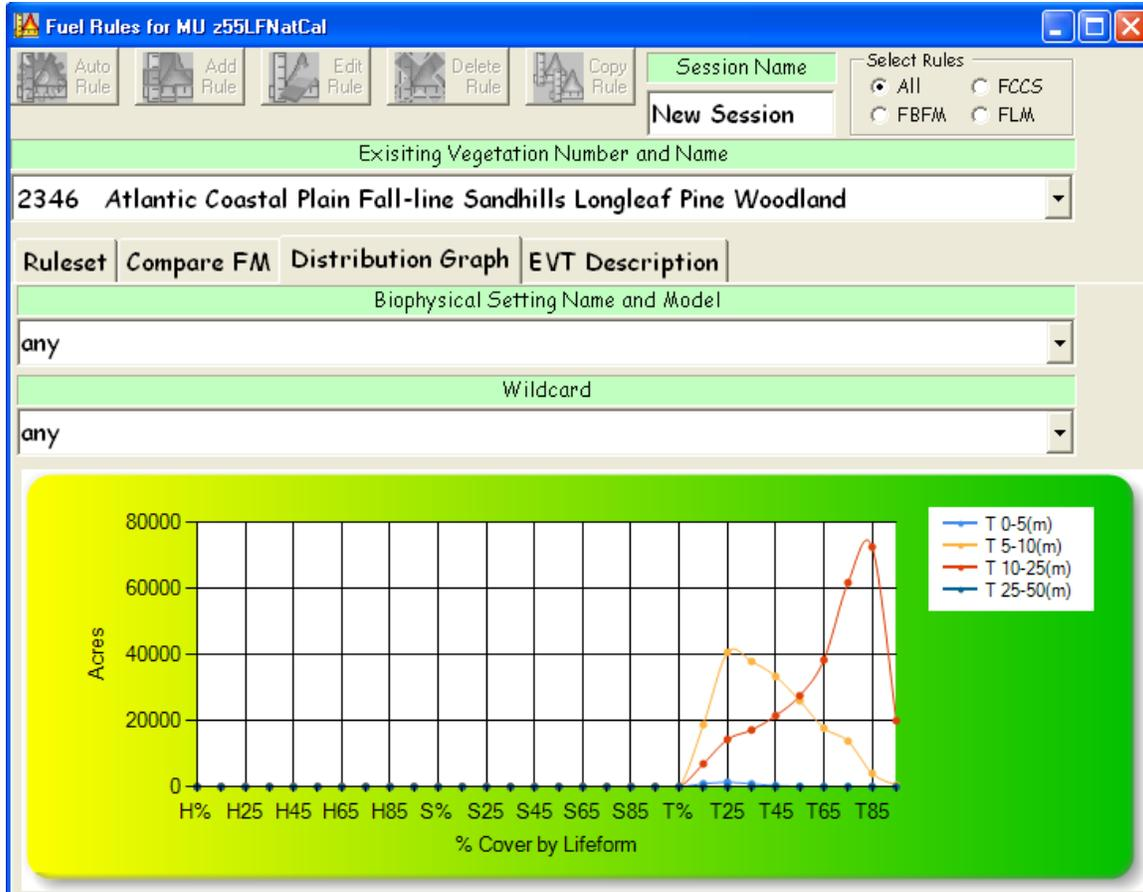

Figure 6-17. Select **Distribution Graph** page tab.
- Use the **Distribution Graph** tab to view the height of the vegetation by cover and the numbers of acres present in the selected EVT within the defined MU (fig. 6-17). (For more information see section 7.6.5.)